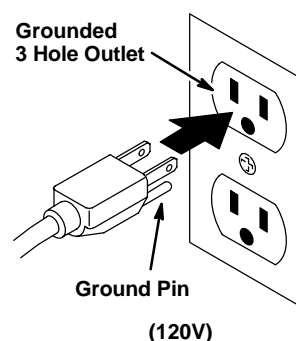

FIG. 30
6. Plug the charger's power supply cord into a grounded wall outlet (Figure 30).